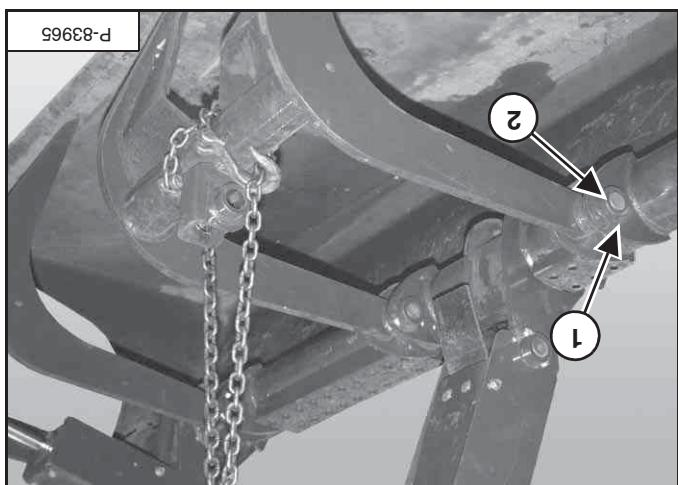

Figure 101
Remove the bolt and nut (item 1), remove the mounting pin (item 2) [Figure 101] (both sides).